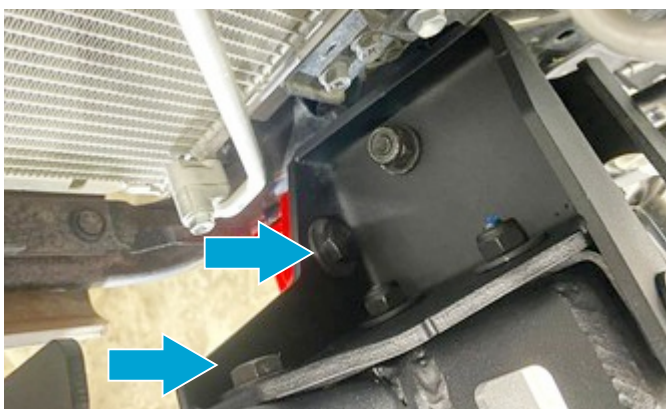

Fig.47
44. Tighten the hardware shown in Fig.47.